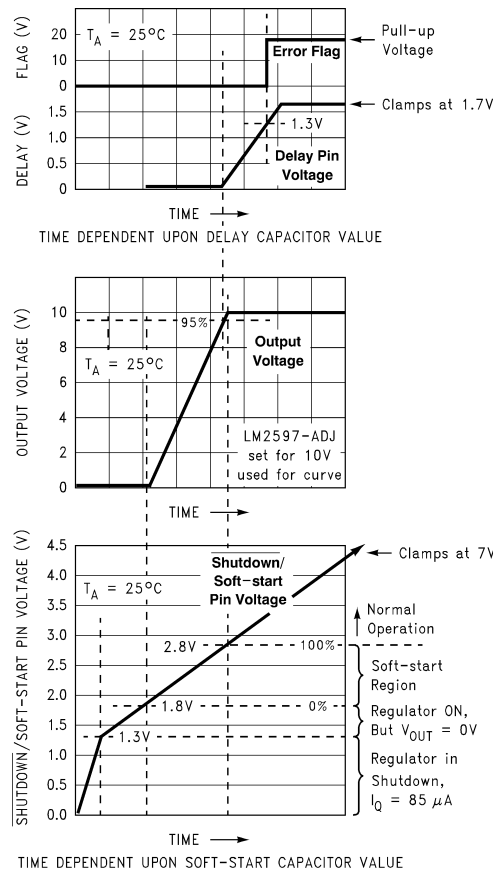
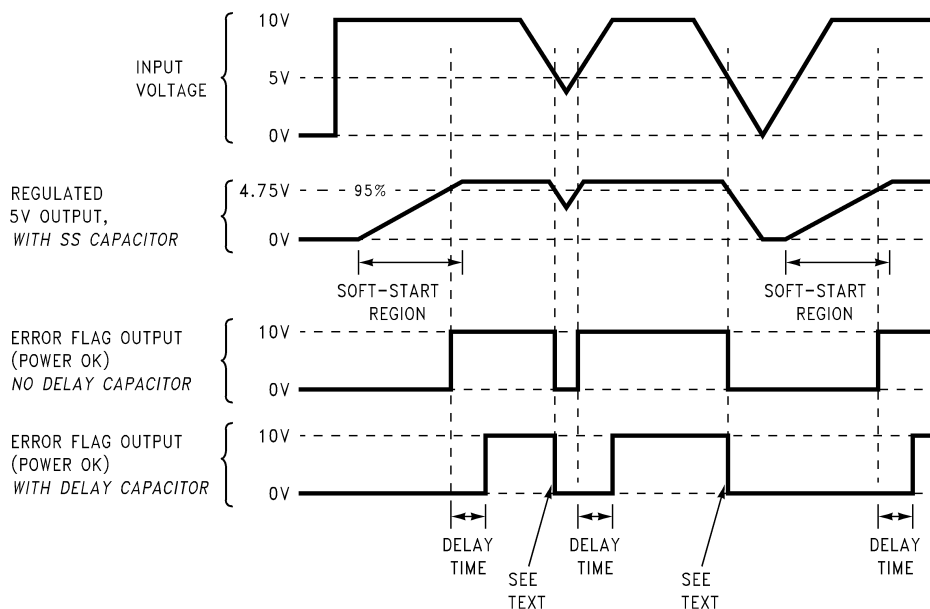

Figure 31. Soft-Start, Delay, Error, and Output
Figure 33. Timing Diagram for 5-V Output
A capacitor on this pin provides the regulator with a soft-start feature (slow start-up). When the DC input voltage is first applied to the regulator, or when the Shutdown/Soft-start pin is allowed to go high, a constant current (approximately 5  $\mu$ A begins charging this capacitor). As the capacitor voltage rises, the regulator goes through four operating regions (see the bottom curve in Figure 31).
3. Soft-start Region – When the  $\overline{SD/SS}$  pin voltage is between 1.8 V and 2.8 V (at 25°C), the regulator is in a soft-start condition. The switch (Pin 8) duty cycle initially starts out very low, with narrow pulses and gradually get wider as the capacitor  $\overline{SD/SS}$  pin ramps up towards 2.8 V. As the duty cycle increases, the output voltage also increases at a controlled ramp up. See the center curve in Figure 31. The input supply current requirement also starts out at a low level for the narrow pulses and ramp up in a controlled manner. This is a very useful feature in some switcher topologies that require large start-up currents (such as the inverting configuration) which can load down the input power supply.
The lower curve shown in Figure 31 shows the soft-start region from 0% to 100%. This is not the duty cycle percentage, but the output voltage percentage. Also, the soft-start voltage range has a negative temperature coefficient associated with it. See the soft-start curve in Electrical Characteristics.
Provides delay for the error flag output. See the upper curve in Figure 31, and also refer to timing diagrams in Figure 33. A capacitor on this pin provides a time delay between the time the regulated output voltage (when it is increasing in value) reaches 95% of the nominal output voltage, and the time the error flag output goes high. A 3- $\mu$ A constant current from the delay pin charges the delay capacitor resulting in a voltage ramp. When this voltage reaches a threshold of approximately 1.3 V, the open collector error flag output (or power OK) goes high. This signal can be used to indicate that the regulated output has reached the correct voltage and has stabilized.